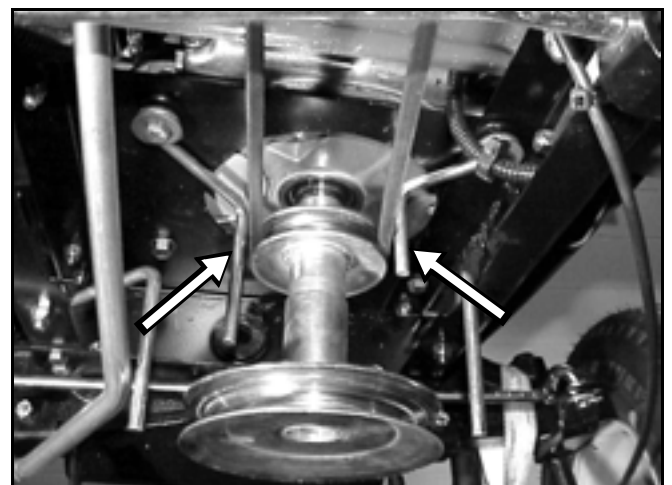

Figure 110
4. Loosen the right and left belt guides located on each side of the engine pulley. Swing the belts guides away from the pulley (Figure 110).